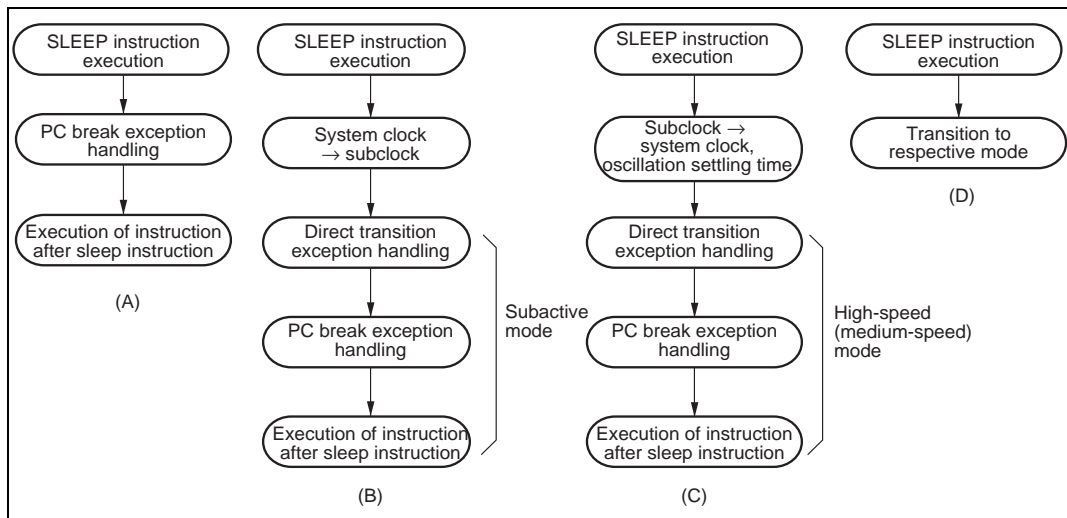

Figure 6.2 Operation in Power-Down Mode Transitions
After execution of the SLEEP instruction, a transition is not made to sleep mode or subsleep mode, and PC break interrupt handling is executed. After execution of PC break interrupt handling, the instruction at the address after the SLEEP instruction is executed (figure 6.2 (A)).
- When the SLEEP instruction causes a transition from high speed mode to subactive mode (figure 6.2 (B)).
- When the SLEEP instruction causes a transition from subactive mode to high speed (medium speed) mode (figure 6.2 (C)).
After execution of the SLEEP instruction, a transition is made to the respective mode, and PC break interrupt handling is not executed. However, the CMFA or CMFB flag is set (figure 6.2 (D)).